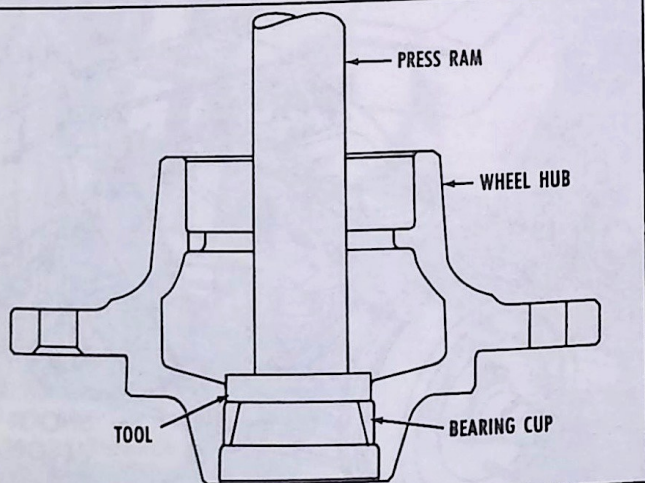

Fig. 7—Wheel Hub Bearing Cup Removal
1. Using steel bar stock 3/8" x 3/8" in cross section, make press-out tools shown in Figure 7.